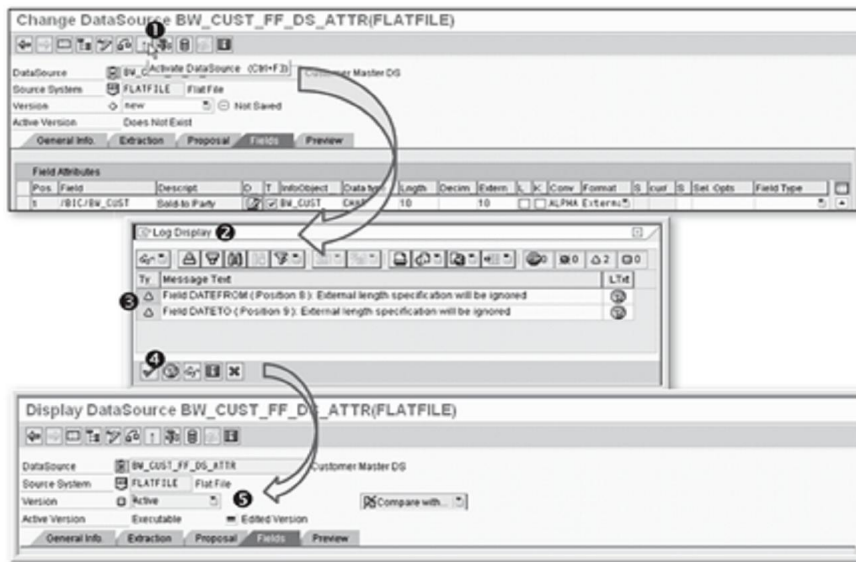

Figure 7.16 Activating DataSource
You can now activate the DataSource using the Activate icon shown in ❶ of Figure 7.16. Activating the DataSource also creates the PSA associated with it (a PSA is technically a transparent table, and data is saved unchanged in it). There is no transformation between the source system and PSA. In SAP NetWeaver BW, storing data in PSAs is mandatory in almost all of the ETL scenarios.
At the time of activation, the system may show you some log messages (❷ of Figure 7.16). These messages appear because of discrepancies in the specified field length; in positions 8 and 9 of Figure 7.15, shown earlier, the internal length (Length column) is given as 8, and the external length (Extern column) is given as 10. The warning messages tell you that the system will use the internal length, ignoring the external length. As shown in ❸ of Figure 7.16, the symbol in front of both messages is yellow (which indicates a warning message); you can click on the Continue icon (❹).
Once successfully activated, the version of the DataSource is changed from New to Active, as shown in ❹ of Figure 7.16.